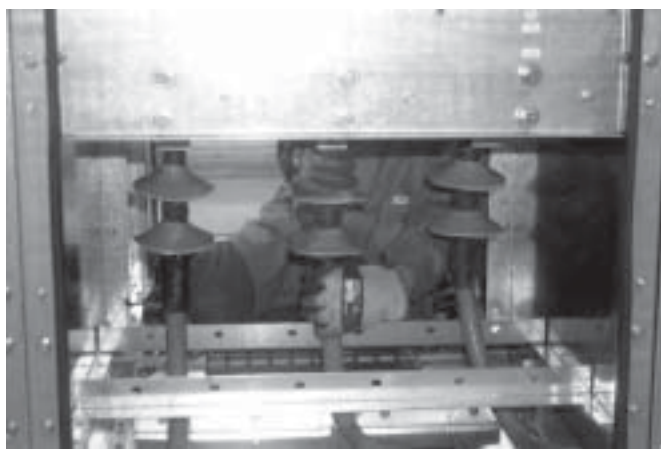

Fig. 76
- connect the cable terminals to the switchboard (2) (fig. 73-74 and (fig. 76) by means of the relevant screws and washers;